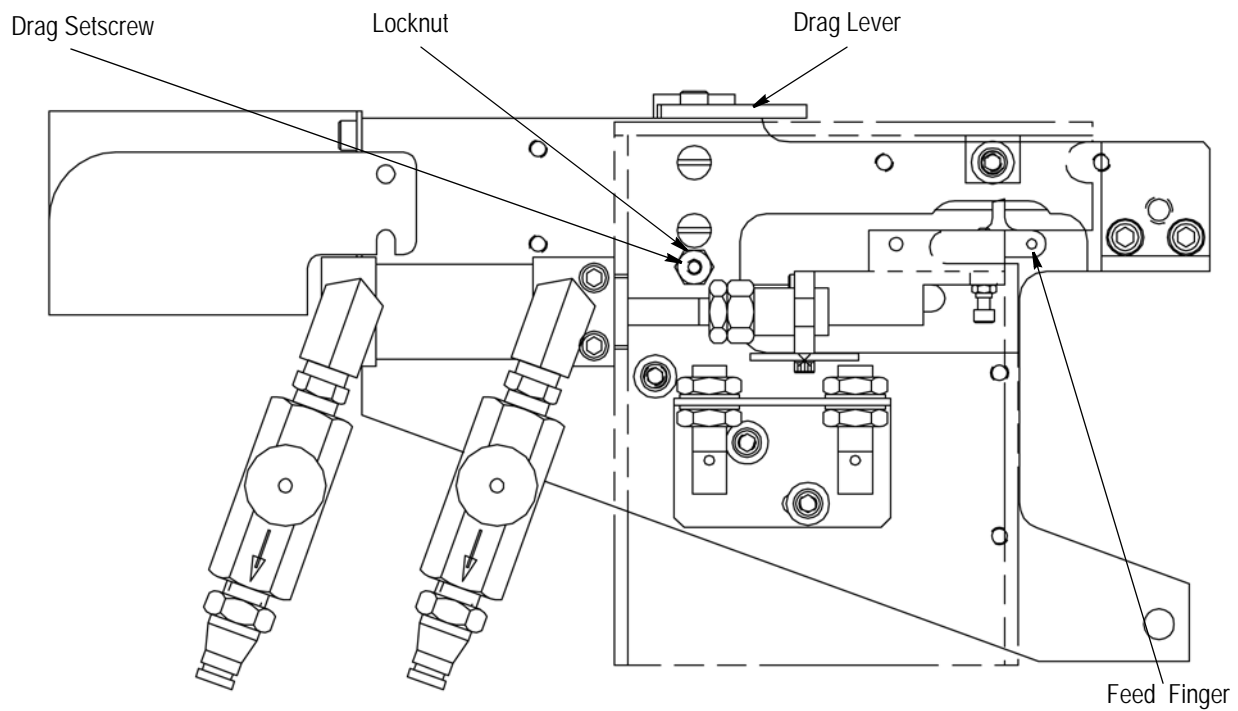

Figure 21
6.2. Feed Adjustments (Figure 21)